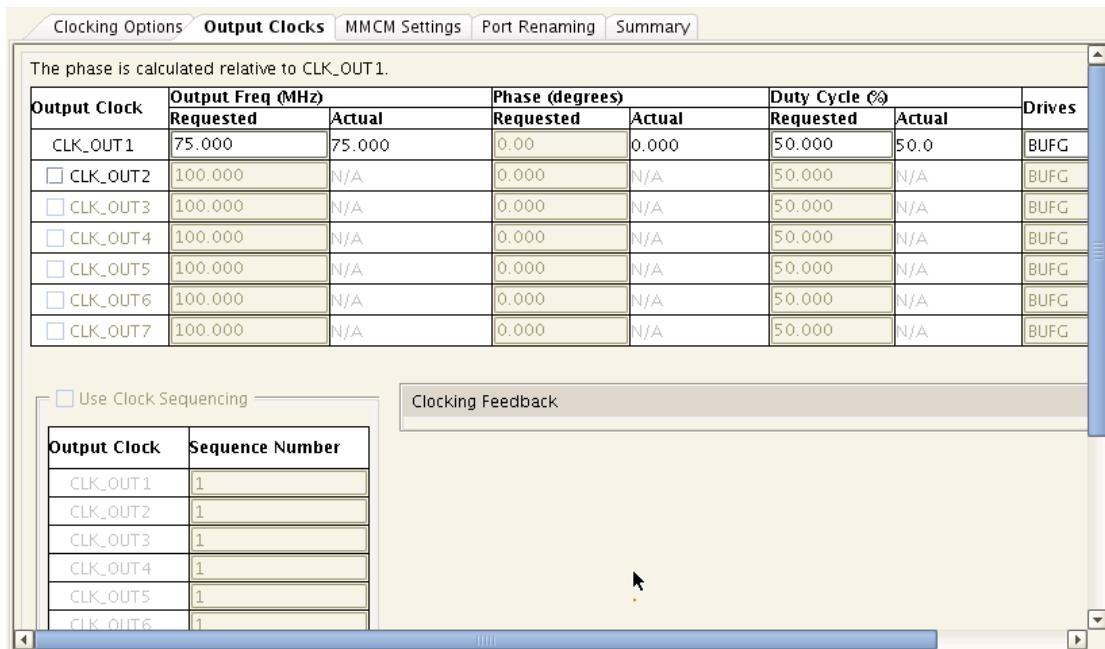

Figure 45: Clocking Wizard: Output Clocks Settings Tab
5. In the **Output Clocks** tab (Figure 45):